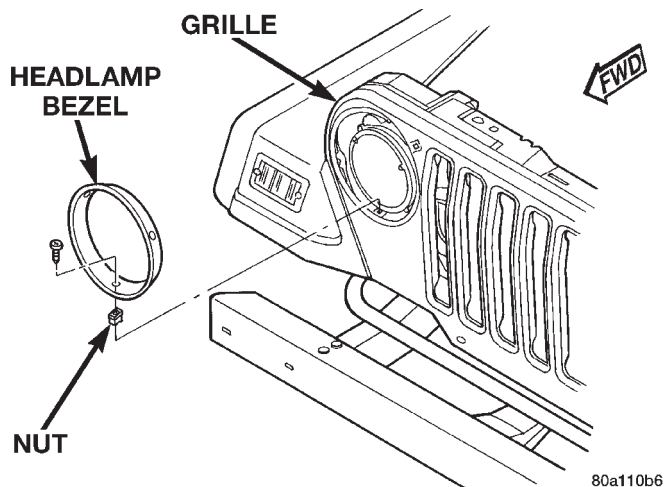

Fig. 1 Headlamp Bezel
- (1) Remove the screws that attach the headlamp bezel (Fig. 1).